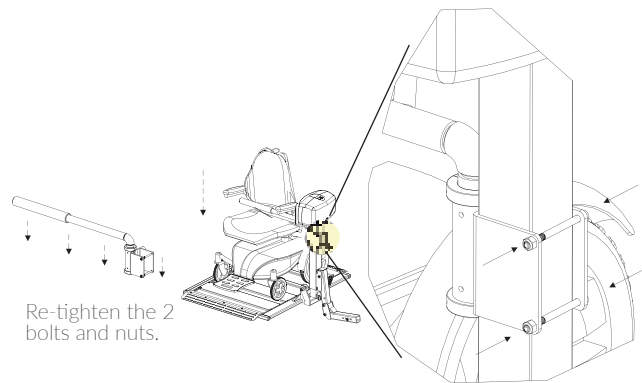

Figure 6-13
4. Lower the platform approximately 2" to 3" and allow the arm to drop along with the seat. Retighten the two bolts and nuts. *See Figure 6-13.*